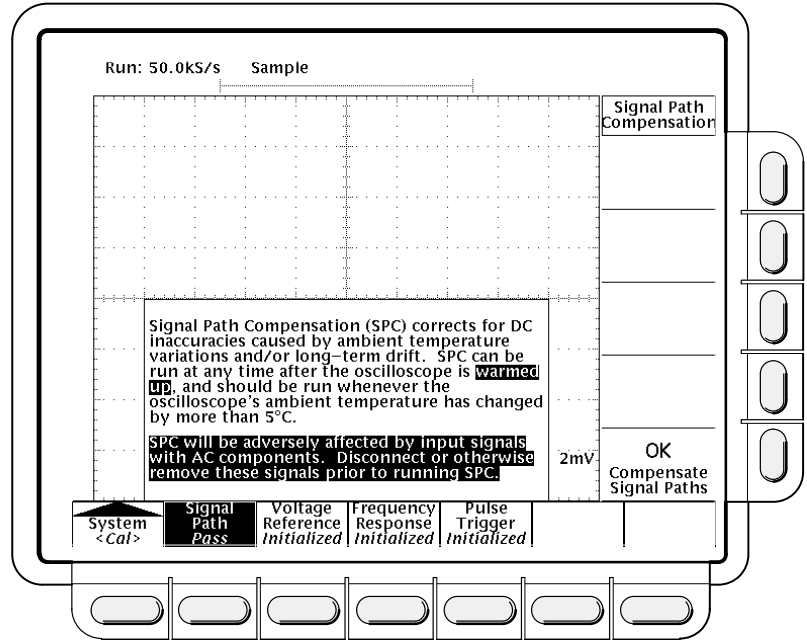

Figure 3-73: Performing a Signal Path Compensation
5. Verify the word **Pass** appears under **Signal Path** in the main menu. (See Figure 3-73.)